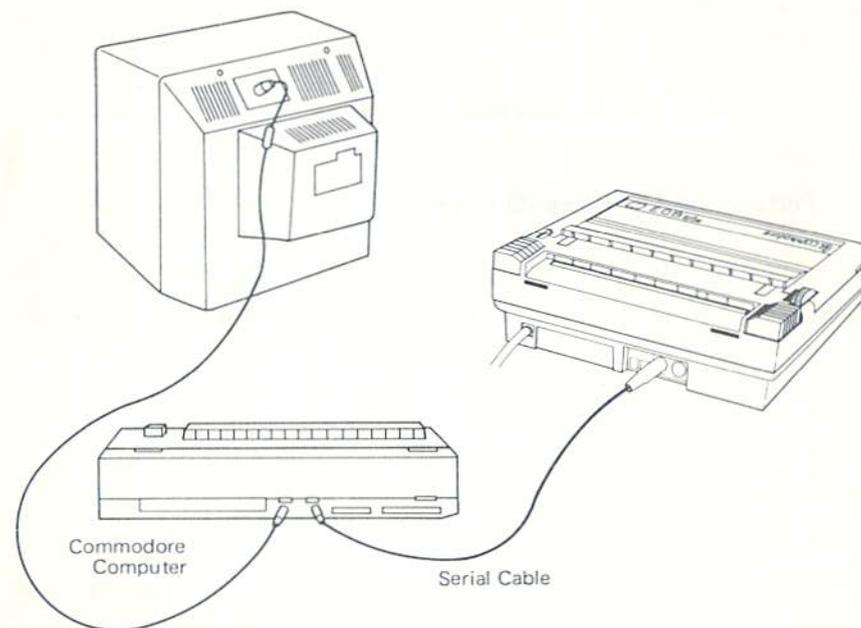

Figure 12. Printer to Computer Hookup
3. Connect the other end of the cable to your computer in the Serial Port Connector located in the back of your computer (See Figure 12) or your Disk Drive (See Figure 13). Make sure that you are "keying" the pins properly into the connector with 6 holes.